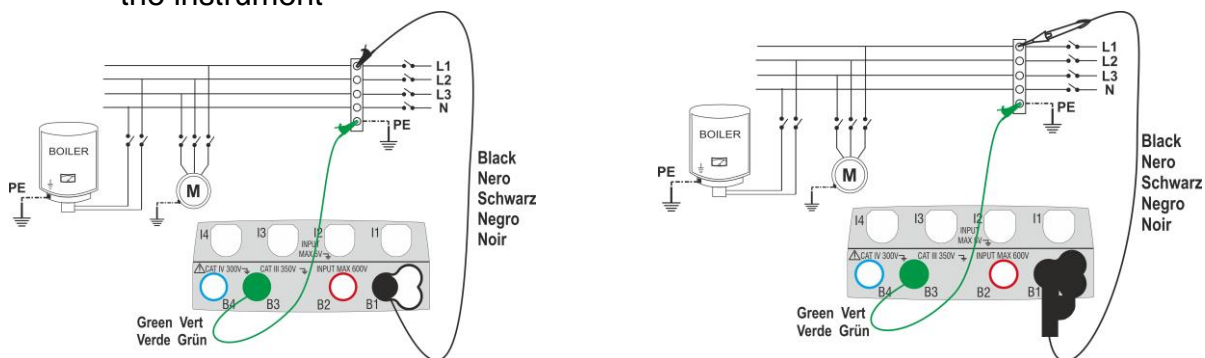

Fig. 8: Insulation test by means of single cables and remote lead
- Connect the alligator clips and/or test leads and/or remote lead to the ends of the conductors to be tested as in Fig. 8 and Fig. 9.